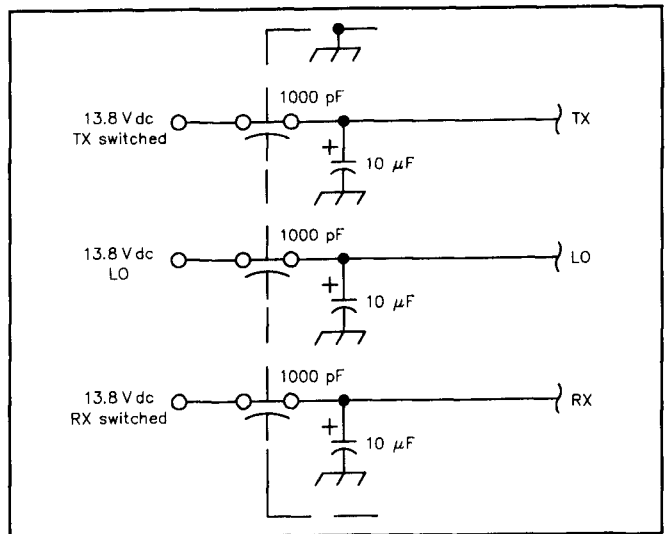

Fig 2
The SBL-1X version uses a 3-dB resistive pad at the receiver IF port to keep the receive-converter output to an appropriate level. The transmit amplifier provides 13 dBm (20 mW) output at the 1-dB compression point. This is appropriate for driving a discrete amplifier chain, or for direct connection to the antenna for local, line-of-sight or hilltop operation. Most hybrid linear-amplifier modules suitable for 33-cm use, such as the MC5874 and PF0011,10 require a lower drive level. Fig 2 and the parts list specify components for versions with
Because of the tight dimensional tolerances required for etched microwave filters that require no adjustments, and because there are many variables in the printing process, a PC-board etching pattern is not included with this article. If you want to make a board for your own use, send an SASE to the ARRL Technical Department Secretary for a dimensioned copy of the artwork.11 PC boards, parts and kits are available, however, as mentioned earlier.12 Follow the construction guidelines discussed in Jim Davey's 1989 article,13 and use only high-quality, microwave-rated porcelain chip capacitors in building the circuit. Avantek and Mini-Circuits (MCL) make MMICs suitable for use in this project. See the parts list in the Fig 2 caption for equivalent parts. There is some variation in the packaging of MMICs. Some use a colored dot at the bevel-cut input lead; others use a raised dot at the output lead. Be sure to install the MMICs in the correct orientation. Fig 3 shows placement of parts on the transverter PC board. The 144-MHz IF output comes off the board via a pad adjacent to U12. If necessary, you can use the traces in that area for a pi-network attenuator, or as a take-off point for the receiver signal or for a subsequent amplifier stage, such as the boxed section in the lower right corner of Fig 2.
Refer to Fig 2. All power is routed through 1000-pF, 50-V feedthrough capacitors. These are soldered directly to the brass walls of the box to insure a low inductance RF path. I used three feedthrough capacitors: one for the local oscillator, one for the transmitter, and one for the receiver. The 10- $\mu$ F, 35-V Tantalum capacitors are used for additional bypassing of the dc supplies. I routed all of the wiring on the unetched side of the circuit board. Placing it on this side helps prevent any problems with RF floating on the dc bus.
Fig 1 is the transverter block diagram and Fig 2 is the schematic diagram. Fig 3 shows the layout of the 5- x 7-inch G-10 board with all functional blocks labeled. In the transmit path, FL1 removes the image, LO (local oscillator) and higher-
**Fig 2—Schematic of the 1296-MHz transverter. All resistors and capacitors are chip types except as noted. Diodes D1 through D4 are HP 5082-2835. FL1 through FL6, the mixer tuned circuits and the Wilkinson power divider are etched on the circuit board.**